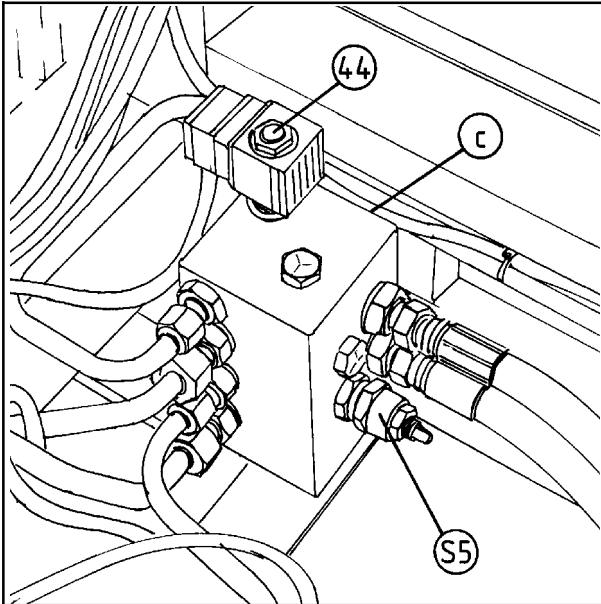

Fig. 14-6
14.8 The valve block on fig. 14-6 has three valves:
- b)** Magnet valve, (44), which is activated when rollers out are operated.